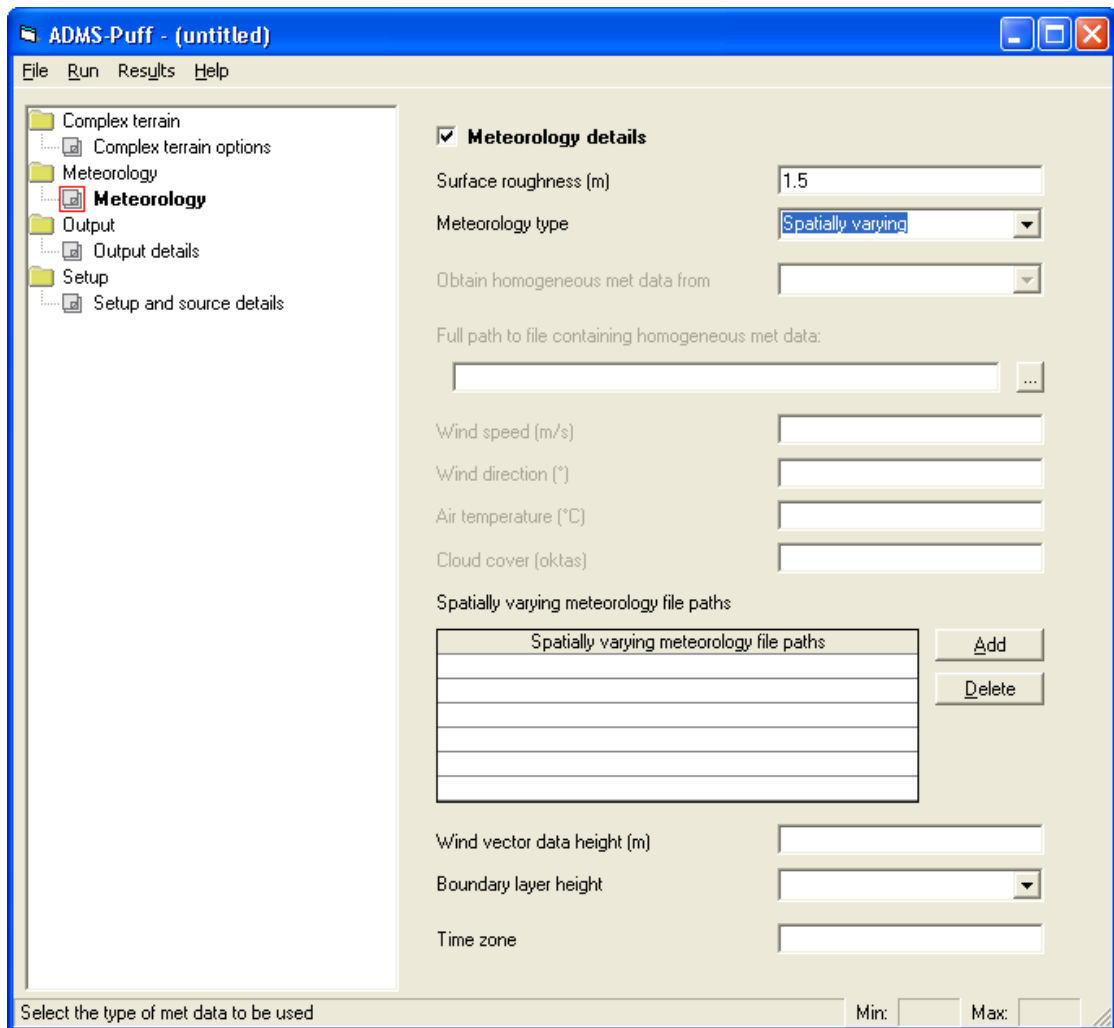

Figure 18: The meteorology screen.
- b. Use the drop down menu next to **Meteorology type** to select **Spatially varying** meteorological data. The options in the lower part of the screen are no longer greyed out. You may have to scroll down to view all of the options available. See Figure 18.